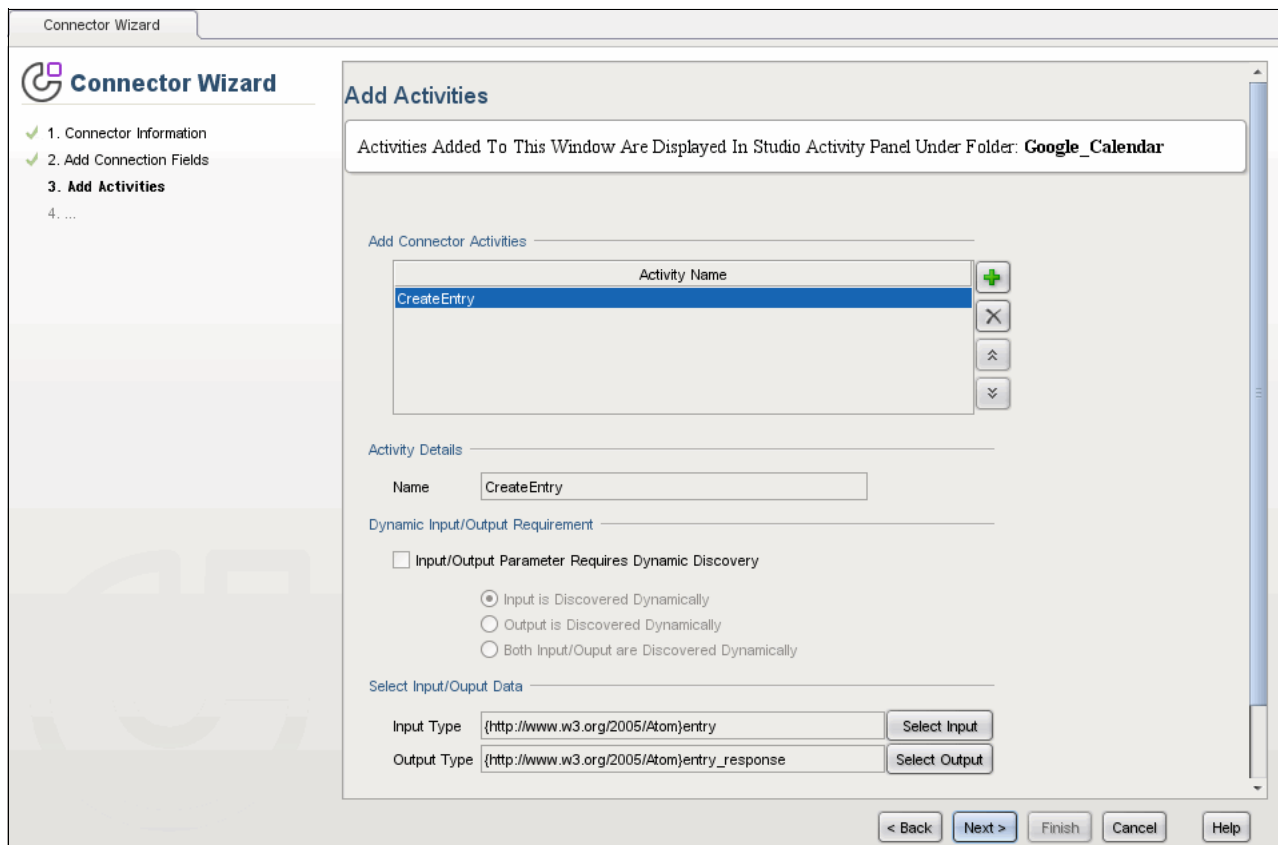

Figure 8-9 Google Calendar connector Add Activities Page
7. Because you will create a Google Calendar event, you must create an activity called CreateEntry. In the Add Activities page, shown in Figure 8-9 on page 335, enter the following information: